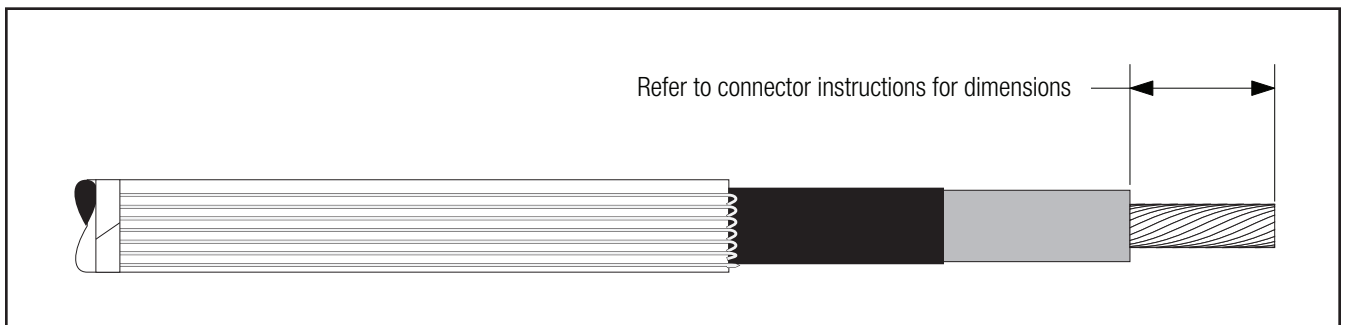

Figure 8
3.1 If using a 3M™ Shearbolt Connector QCI 500-1000, refer to the instructions included with the connector for insulation cut-back dimension. Insulation removal length shall not exceed 3 3/4" (95 mm) from conductor end (Figure 8).